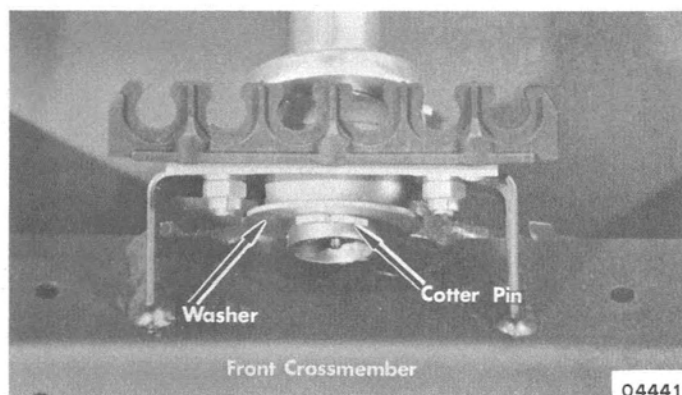

Figure 1. Cotter Pin Location
3. Remove cotter pin and washer(s) from bottom end of handlebar. (Figure 1)